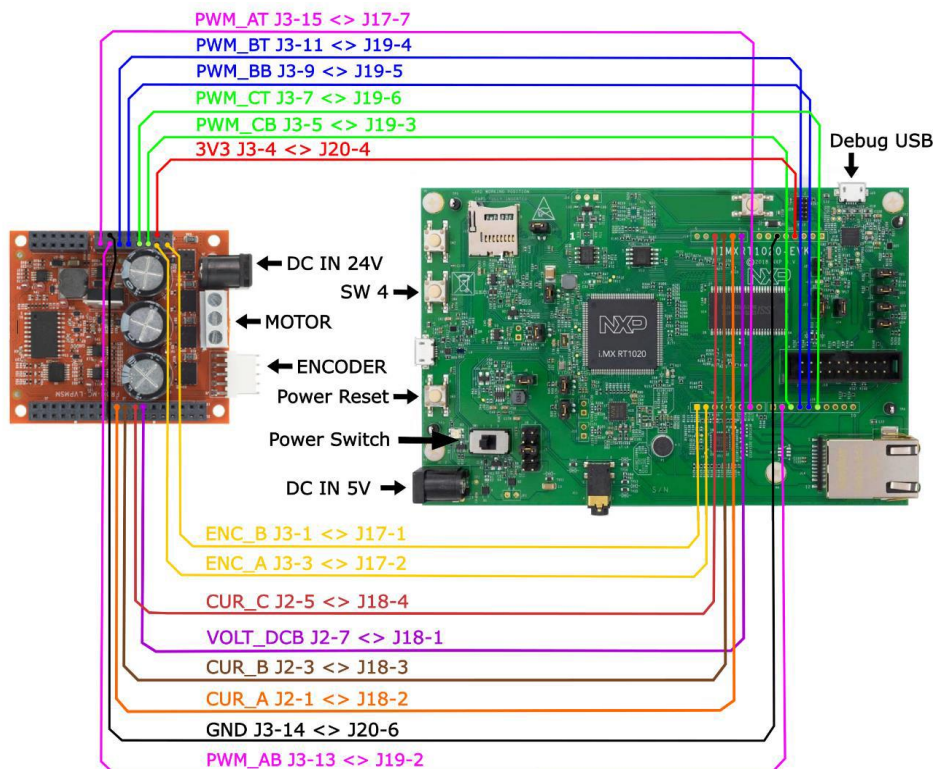

Figure 19. MIMXRT1020-EVK interconnection diagram
1. Connect the FRDM-MC-LVPMSM power stage to the MIMXRT1020-EVK board by wires according to the pin assignment (Table 16) and the interconnection diagram (Figure 19).